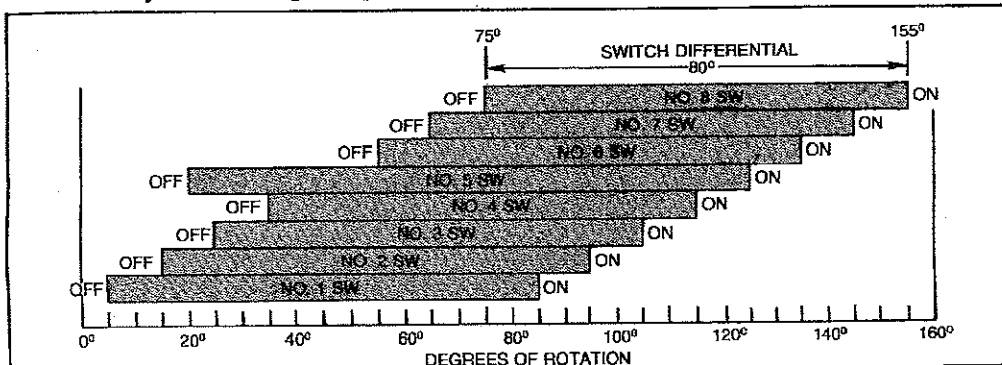

FIGURE 37 - End Switch Set Points for Eight-Stage Electric Thermostat
8. Set the balance of the differential cams in the same manner, following the travel points given in Figure 37.
9. After completion of cam adjustments, run the motor and cams through the full range of end switch closing and opening points to be sure they coincide with those given in Figure 37.